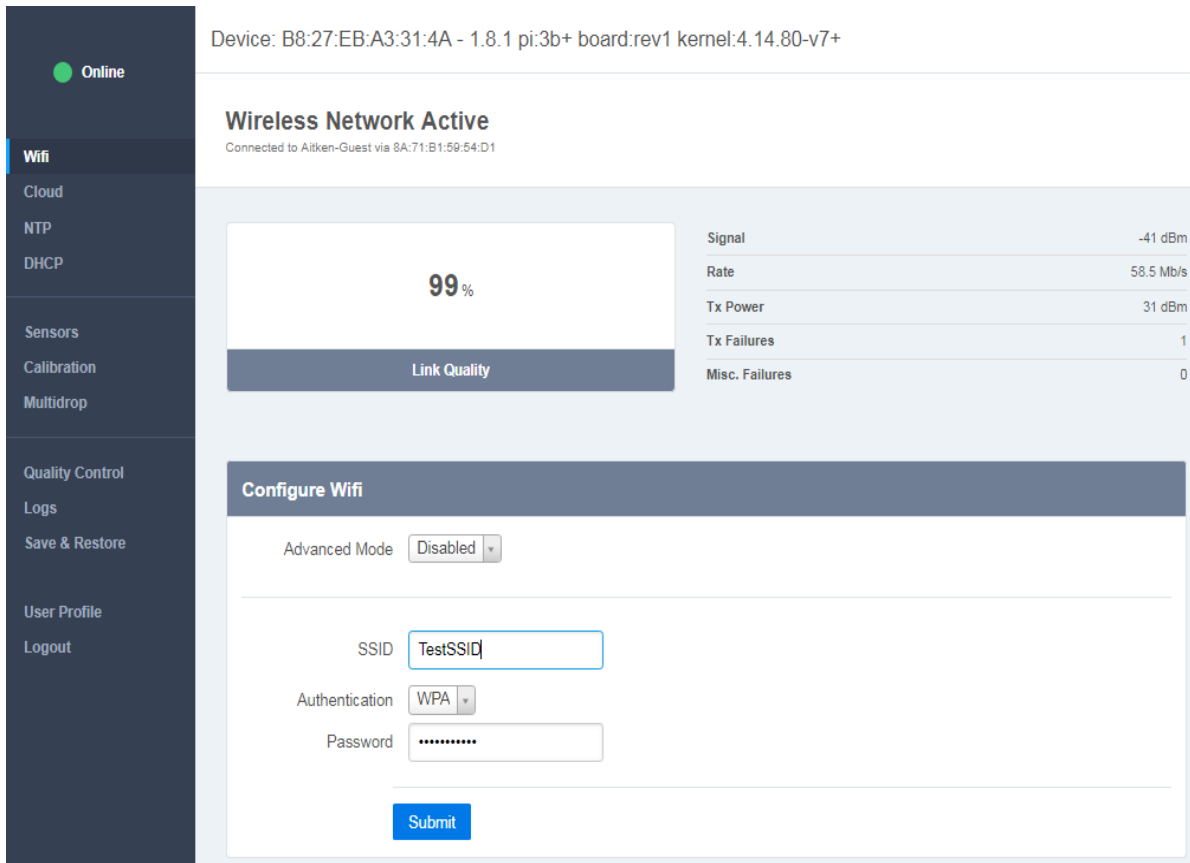

Figure 9. Configuring Wi-Fi
3. After a few seconds, if the network settings are “good” then the screen will update with wireless stats, refer **Figure 9**.